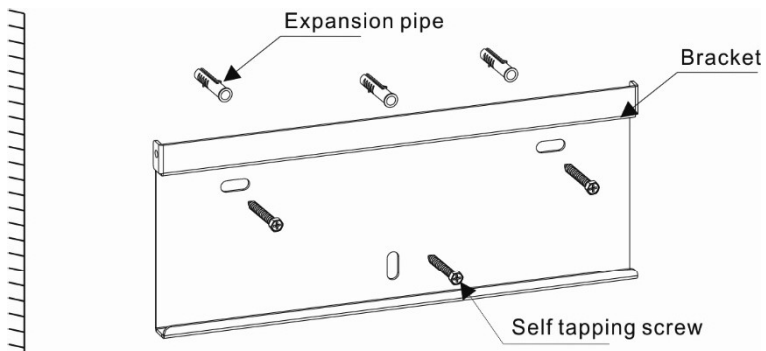
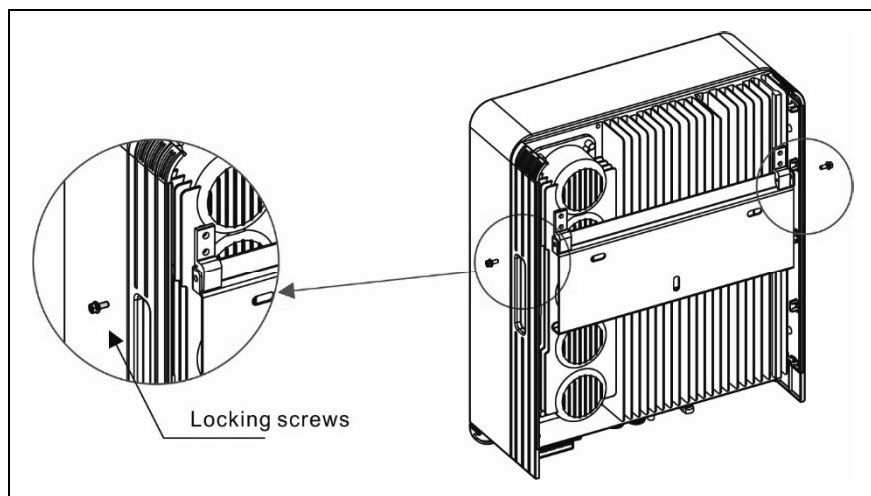

Figure 4.4 Inverter wall mounting
Figure 4.5 Wall Mount Bracket
Please see Figure 4.4 and Figure 4.5 for instruction on mounting the inverter.
2. Make sure that the bracket is horizontal and the mounting hole (as shown in Figure 4.4) is correctly marked, and drive the expansion pipe into the wall with a hammer.
4. Lift up the inverter (be careful to avoid body strain), and align the back bracket on the inverter with the convex section of the mounting bracket. Hang the inverter on the mounting bracket and make sure the inverter is secure (see Figure 4.5)